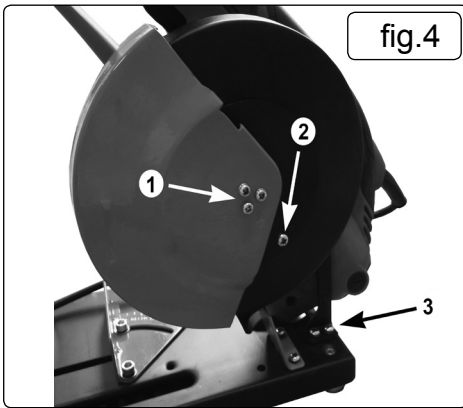
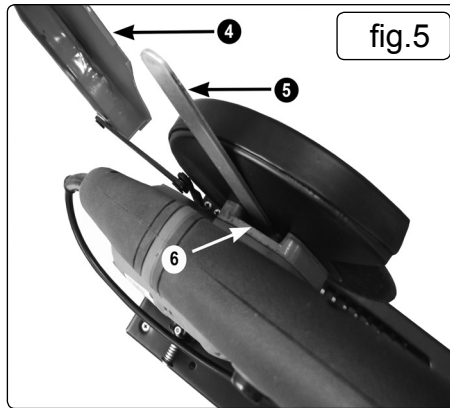

fig.4
fig.5
6.2. REMOVING AND INSTALLING CUTTING DISCS (Refer to figs. 4,5 and 6).
6.2.2. Remove three screws (fig.4/1) which hold the active disc guard in position. Note the orientation and relative positions of the spacer washer and mounting plate. Pull the active disc guard forward and then lay it behind the machine (fig.5/4). Remove the static disc guard screw (fig.4/2). Remove the active disc guard control rod screws fig.4/3) to allow the active disc guard to be removed completely.
6.2.3. Use the 12mm open ended spanner (fig.5/5) placed through the aperture (fig.5/6) in the casing of the machine to engage with the flats on the drive spindle.